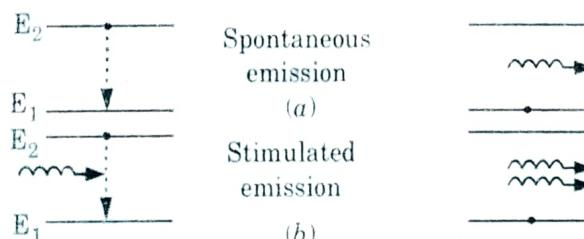

Fig. 3.10.2.
3. From Fig. 3.10.2, it is observed that in spontaneous emission atom from higher energy state returns to lower energy state in an entirely random manner whereas in stimulated emission, a photon having an energy equal to $(E_2 - E_1)$ interacts with the atom in the higher energy state causing it to return to the lower state with the creation of a second photon.